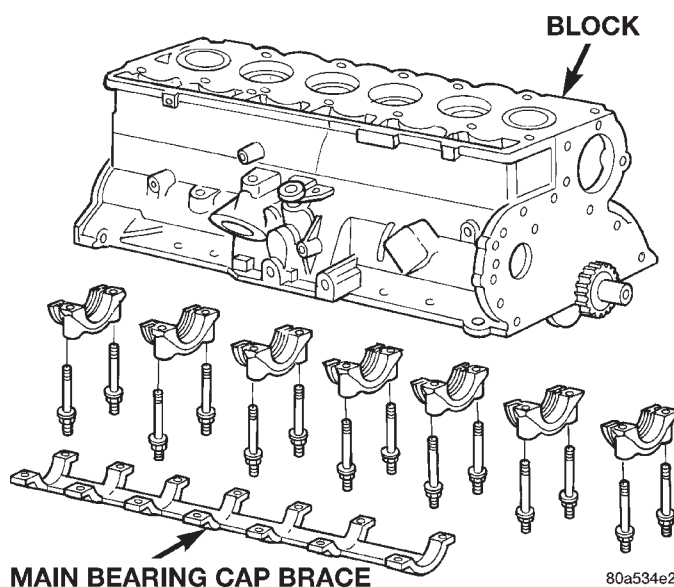

Fig. 57 Main Bearing Caps and Brace.
- (1) Remove the engine cylinder head cover.
- (2) Remove the rocker arms, bridges and pivots.
- (3) Remove the push rods.
(4) Remove the engine cylinder head.
(5) Position the pistons one at a time near the bottom of the stroke. Use a ridge reamer to remove the ridge from the top end of the cylinder walls. Use a protective cloth to collect the cuttings.
(6) Raise the vehicle.
(7) Drain the engine oil.
(8) Remove the oil pan and gasket.
(9) Remove main bearing cap brace (Fig. 57).